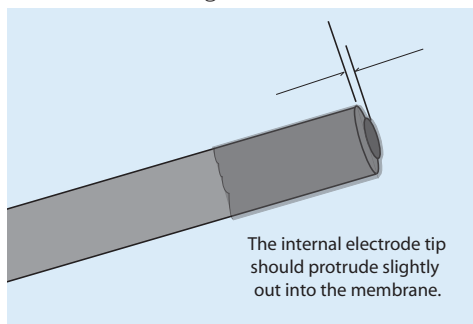

Fig. 5—Membrane placement. The internal electrode tip should protrude slightly out into the membrane.
8. Slowly and smoothly insert the electrode into the sleeve, and screw the locking cap into the handle. The electrode should be observed to press gently against the membrane (Fig. 5).